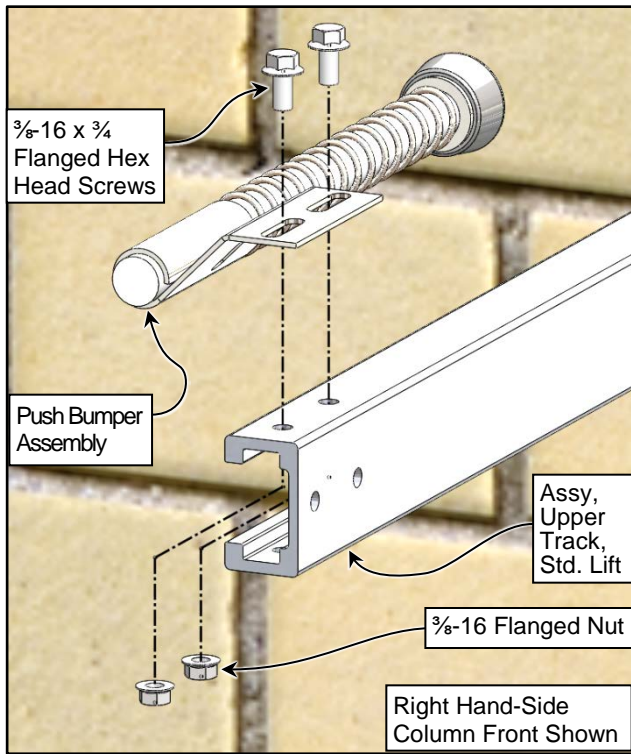
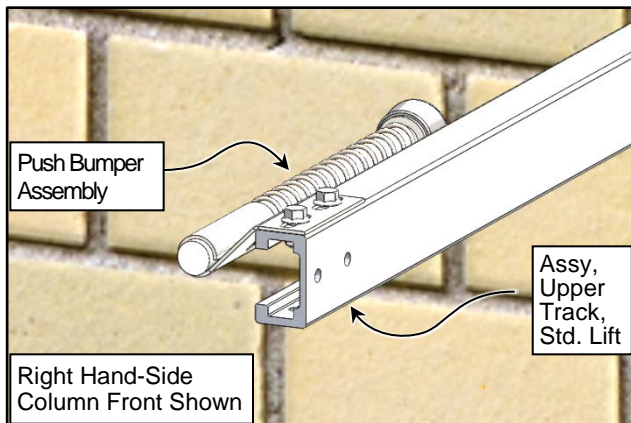

Figure 45
Figure 46
9. Identify, locate, and orient the Push Bumper Assemblies for each side. This includes the Push Bumper Assembly and fasteners. Install the Push Bumpers on the Standard Lift Upper Horizontal Track Assemblies as shown. (See Figure 45 and Figure 46)